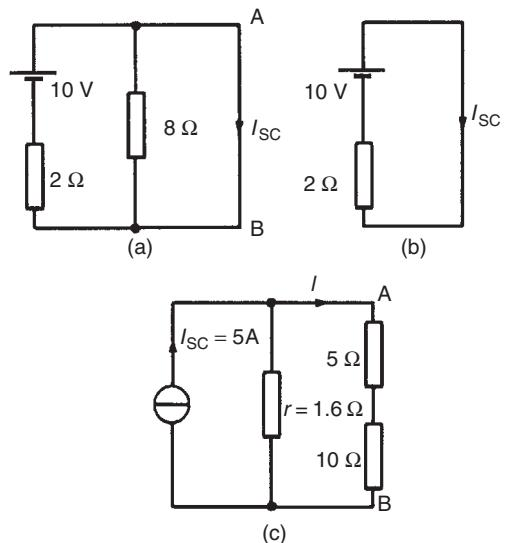

Figure 13.55
- (i) The branch containing the  $10\Omega$  resistance is short-circuited as shown in Fig. 13.55(a)
- (ii) Fig. 13.55(b) is equivalent to Fig. 13.55(a).
- (iii) If the  $10\text{V}$  source of e.m.f. is removed from Fig. 13.55(a) the resistance ‘looking-in’ at a break made between A and B is given by:
- (iv) From the Norton equivalent network shown in Fig. 13.55(c) the current in the  $10\Omega$  resistance, by current division, is given by: